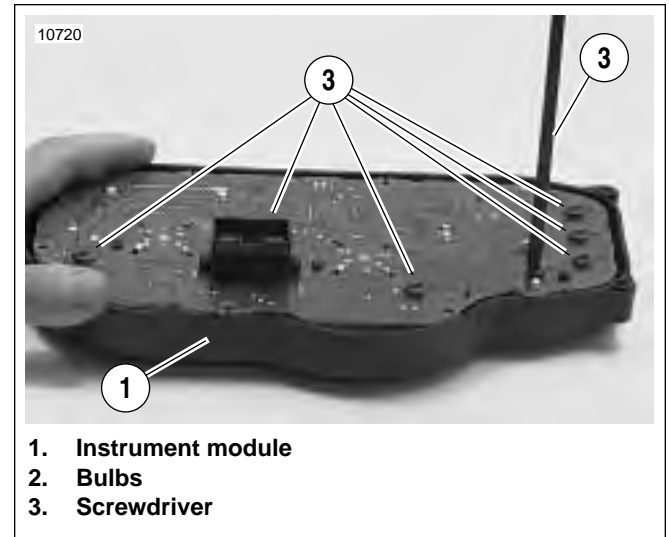

Figure 7-72. Bulb Replacement for Instrument Module
3. See Figure 7-72. Insert screwdriver blade into the slot on the back of the bulb to be replaced and lightly turn counterclockwise and remove bulb.